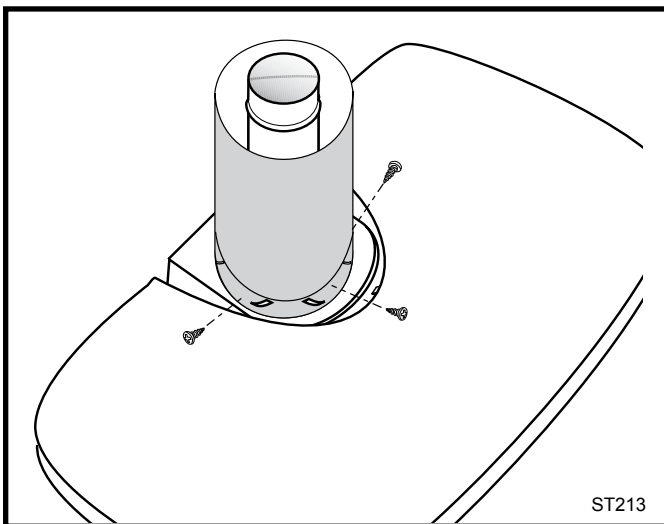

Figure 20 Fasten outer pipe with #12 x 1/2" sheet metal screw.
4. Install the Outer Adapter Pipe. Apply a 1/4" bead of cement around the inside wall of the pipe, about 1" from the end. Insert the pipe over the stove flue collar, keeping the vertical seam oriented to the back of the stove. Also, be sure to align holes on the pipe with the holes on the flue collar of the firebox. Fasten the pipe to the holes in the flue collar with the #12 x 1/2" sheet metal screws provided. (Figure 20)